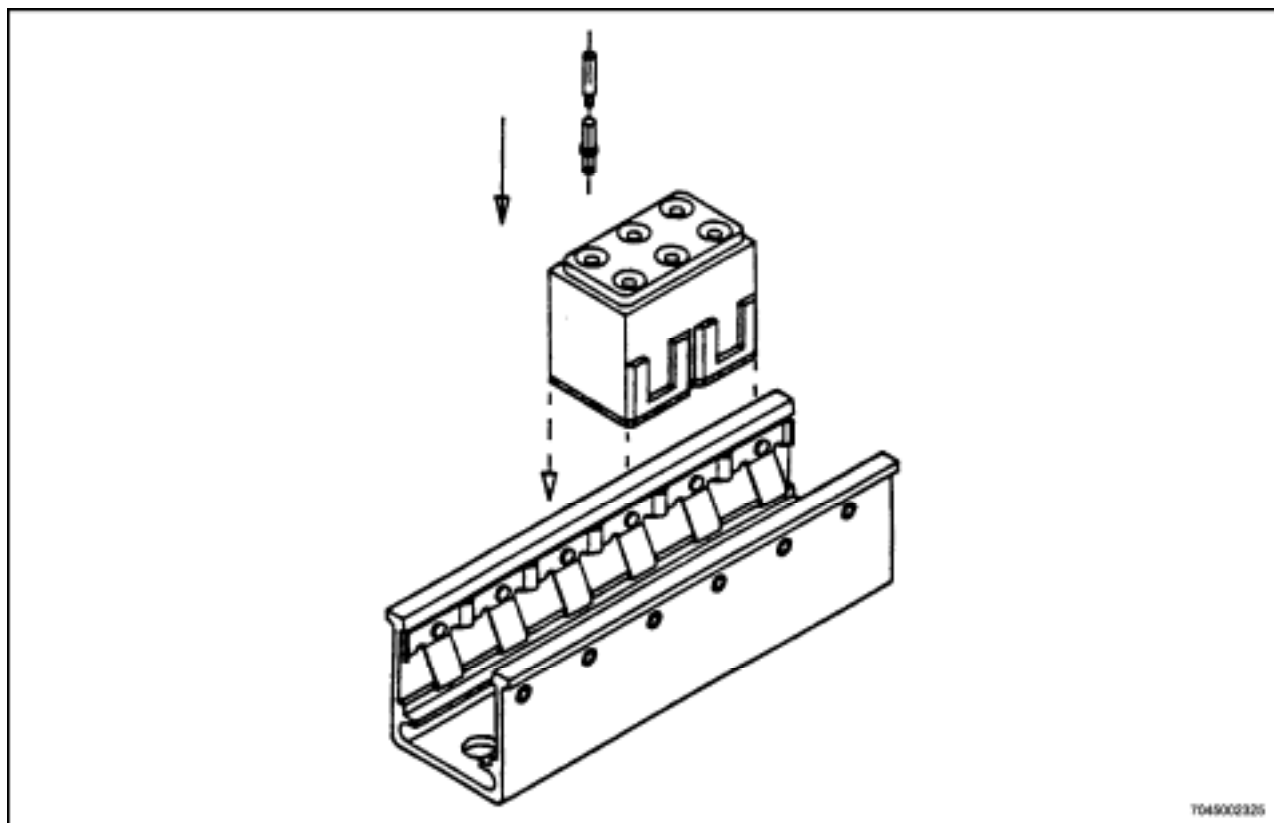
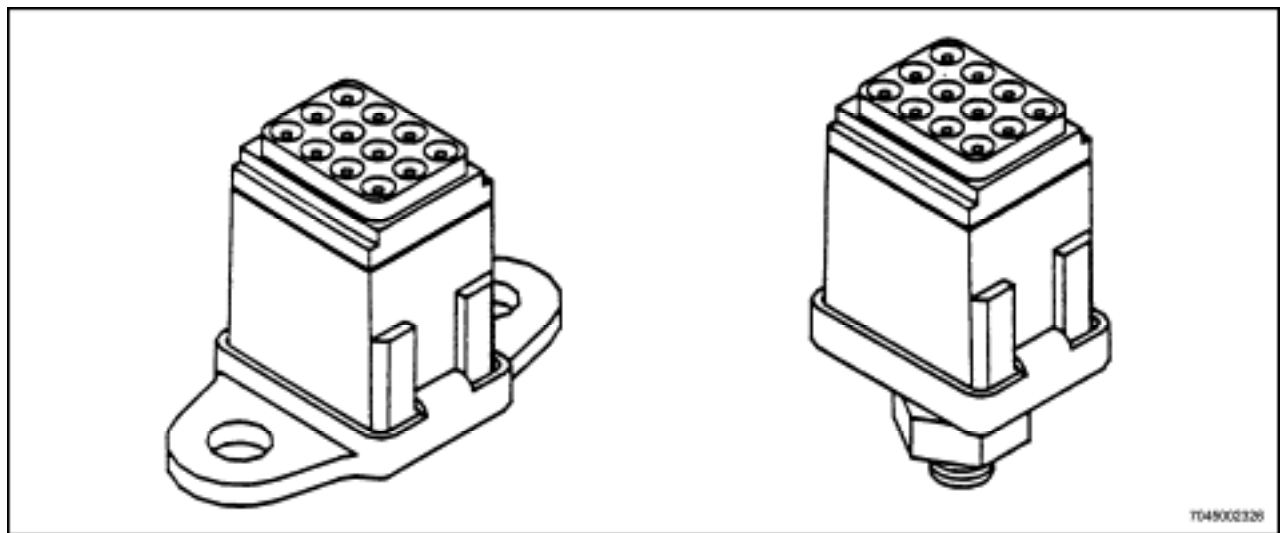

Figure 4-35 Feedback Terminal Junction Assembly Series II
Figure 4-36 Grounding Junction Assembly Series II
- (1) Feedback type - all connections made to one side of module, non-electronic and electronic. (See Figure 4-35.)
- (2) Distribution type - different size contacts bussed together.
- (3) Grounding type - all connections grounded to the panel, stud mount and flange mount. (See Figure 4-36.)
- c. Tracks or frames (holders) for modules. (See Figure 4-35.)
97. Series II modules are individually installed, retained and removed. The installation of modules in the track is accomplished as follows (See Figure 4-35 and Figure 4-40):